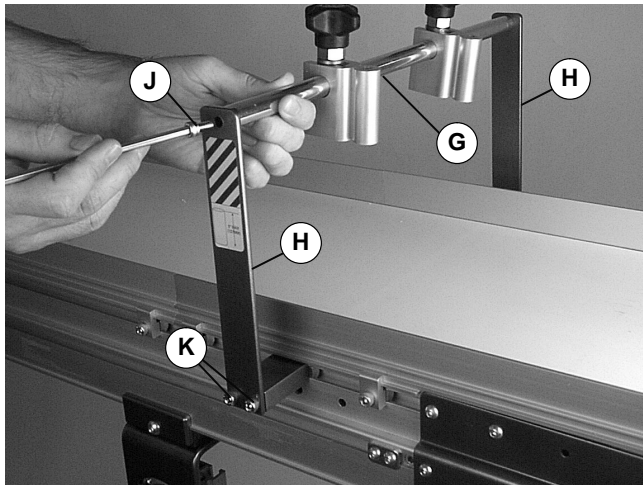

Figure 7
- Loosely attach crossbar & positioner (G of Figure 7) to support brackets (H) with screws (J).